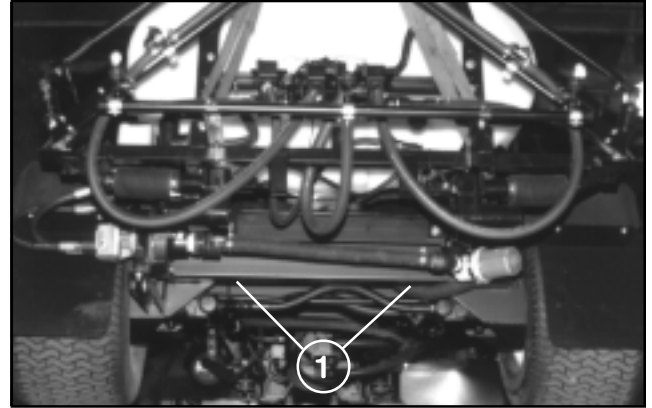

FIG. 30
4. The rear jacking points are on the rear most frame support, between the angle welds. (FIG. 30)